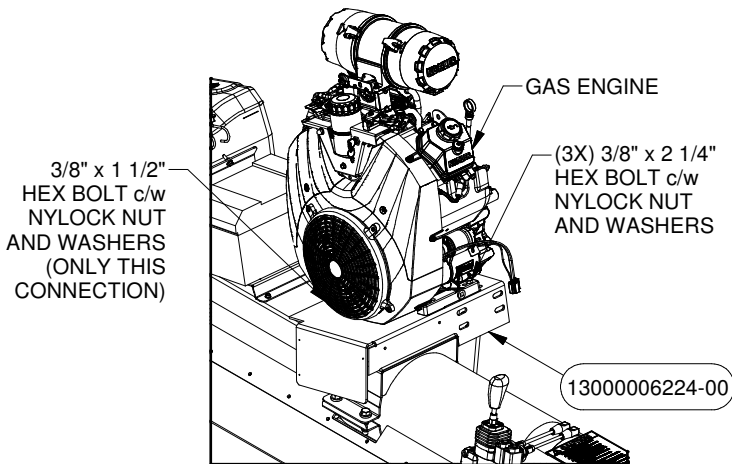

FIGURE 5
- Attach the Gas Engine to the Engine Mount PN# 6224 using Hex Bolts c/w Nylock Nuts and Washers as shown in Figure 5. Fasteners can be found in Bolt Bag PN# 5101 in Engine Kit PN# 7383.